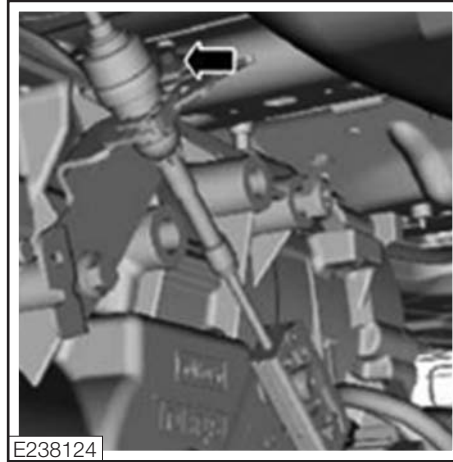

Figure 94
4. Remove the selector lever retainer bolt (Fig. 94).